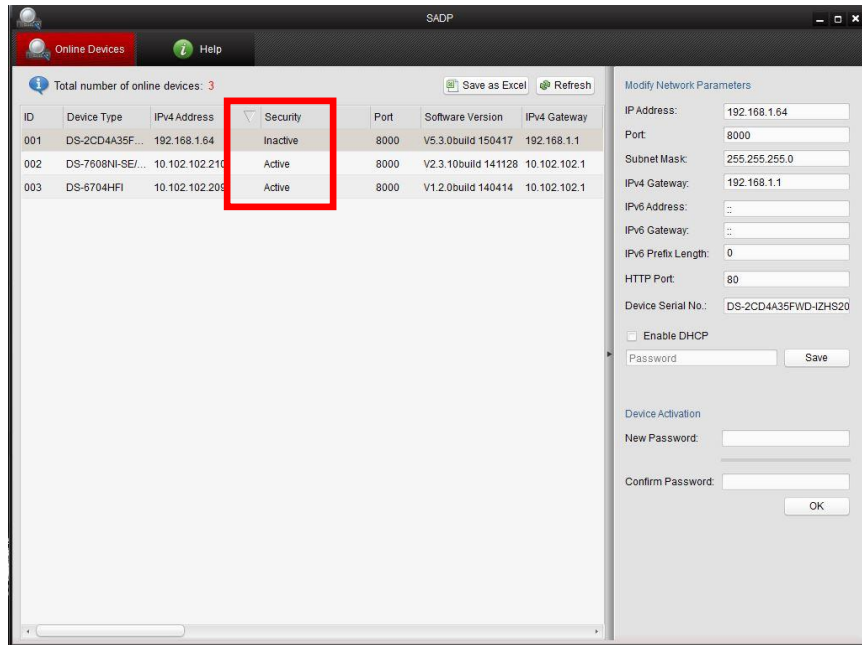

Figure 22 Security Field
- A new field called "Security" will display whether the DVR/NVR is active or not (**Figure 22**).